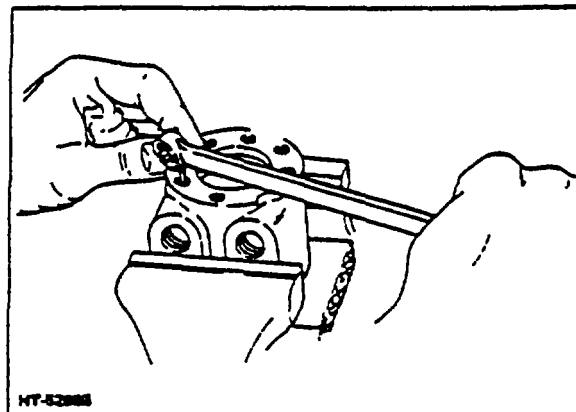

Figure 20. Tightening Check Valve Seat
4. Place the check-valve seat on hex wrench and install it in the : Check valve hole so the machined counterbore seats on the ball. Tighten the seat to 150 lb-in (Fig. 20). Check ball action by pushing ball against the spring force with a small pin.